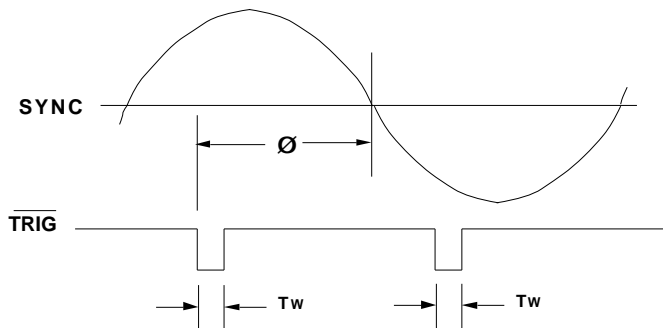

FIGURE 2. TRIG OUTPUT CONDUCTION ANGLE,  $\emptyset$
LS7237 is a monolithic, MOS integrated circuit designed to control the brightness of an incandescent lamp. The output of the LS7237 triggers a triac connected in series with a lamp (See Figure 5). The lamp brightness is determined by controlling the output conduction angle (triac triggering angle) in relation to the AC line frequency (See Figure 2).
**TIMING CHARACTERISTICS** (See Figures 2 and 3):